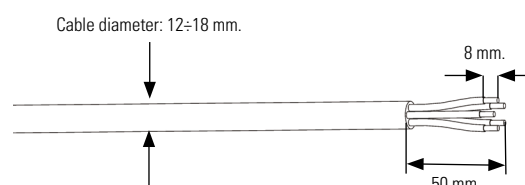

Fig. 52. Stripping the AC cable.
3. Remove the insulation sleeve from the AC bundle by about 50 mm, and remove the insulation from the end of cables L1, L2, L3/PE/N by about 8 mm, as shown in Fig. 52.